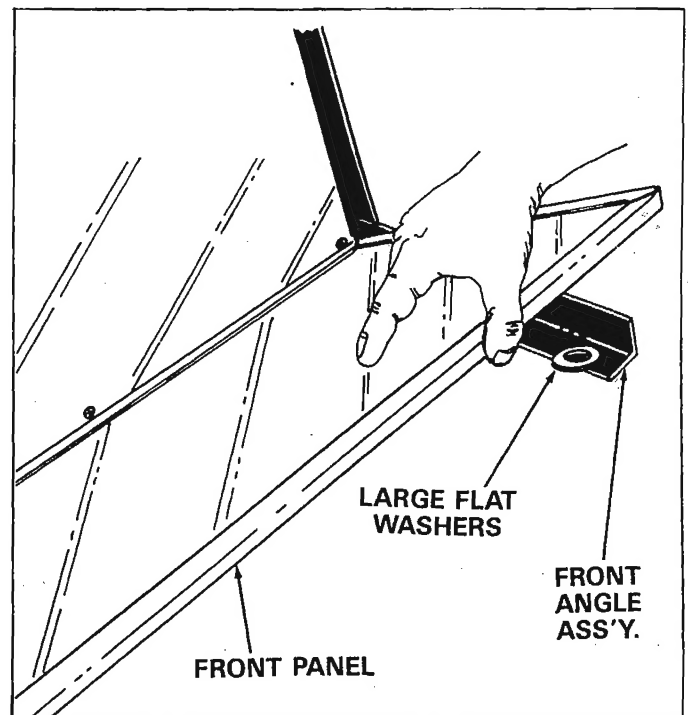

FIGURE 5
8. Lay the front panel on top of the four large washers and in the front angle assembly. See figure 5.